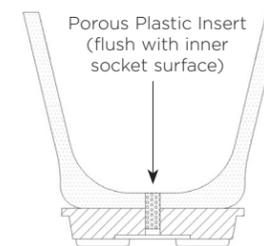
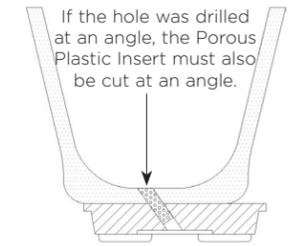

Figure 3
Figure 4
2. To prevent dirt and debris from clogging the airway, place the Porous Plastic Insert inside the 7 mm (9/32") hole. Make sure the Porous Plastic Insert is flush with the inner surface of the socket (Figure 3). If the hole was drilled at an angle, cut or sand the Porous Plastic Insert at an angle as well (Figure 4).